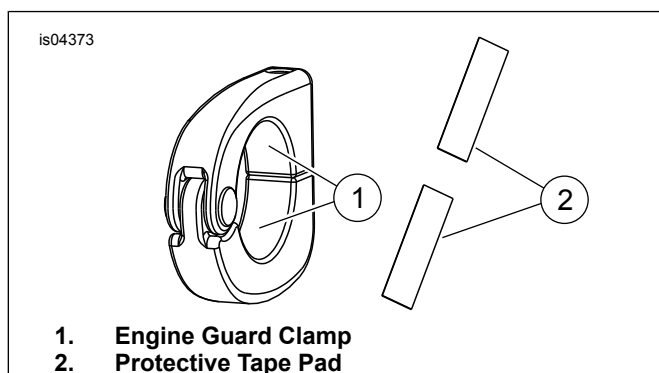

Figure 2. Install Protective Tape Pads
4. See Figure 2. Attach protective tape pads (2) to each inside half of engine guard clamps (1).